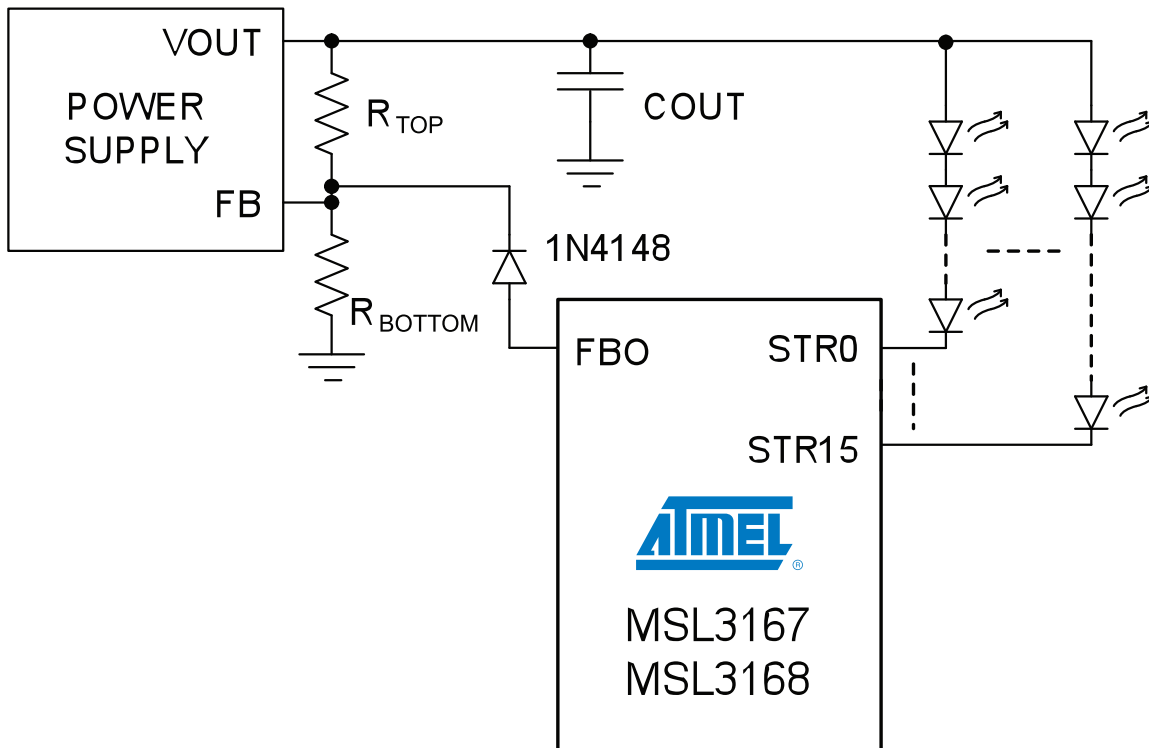

Figure 5. Atmel LED Drivers-MSL3167/8 FBO Connection to Power Supply Voltage Divider
The Efficiency Optimizer (EO) improves power efficiency by injecting a current of between 0 and 255 $\mu$ A into the voltage divider of the external power supply (Figure 5), dynamically adjusting the power supply's output to the minimum voltage required by the LED strings. This ensures that there is sufficient voltage available for LED current control and good power supply noise rejection, while minimizing power dissipation. The power supply must have a nominal feedback voltage of no more than 3.5V, and the voltage setting resistor divider must be accessible (sizing the resistors is covered in the next section).
The MSL3167/8 are designed to control LED string power supplies that use a voltage divider ( $R_{TOP}$  and  $R_{BOTTOM}$  in Figure 5) to set output voltage, and whose regulation feedback voltage is not more than 3.5V. To select the resistors, first determine  $V_{OUT(MIN)}$  and  $V_{OUT(MAX)}$ , the minimum and maximum string supply voltage limits, using:
where  $V_{FB}$  is the regulation feedback voltage of the power supply. Place a diode (1N4148 or similar) between FBO and the supply's feedback node to protect the MSL3167/8 against current flow into FBO (Figure 5).